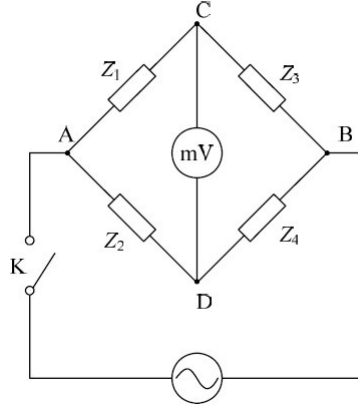

Figure 4. Four-side impedance bridge.
An alternating-current (AC) bridge can be used to measure the Curie temperature of a ferromagnetic material. Although there are many variations of AC bridges, such as the Maxwell bridge, the Owen bridge, *etc*, the basic working principle can be illustrated with a four-side impedance bridge as shown in Figure 4.